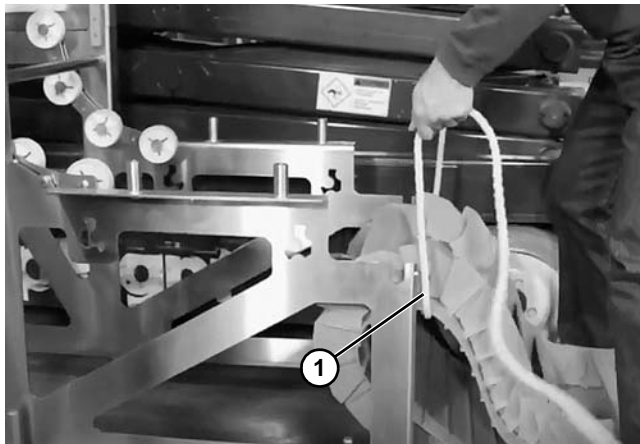

Figure 54
2. Insert the rope (Figure 54, item 1) through the belt.